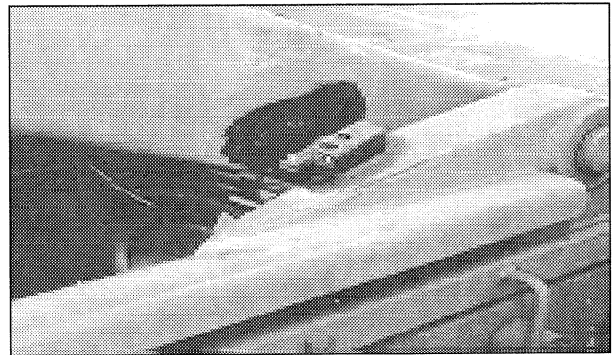

Figure 1 - Lift Frame Cut-Out Switch
- a. the rear lift frame cut-out switch is changed to a magnetic proximity actuator type and relocated to the position shown in Figure 1;